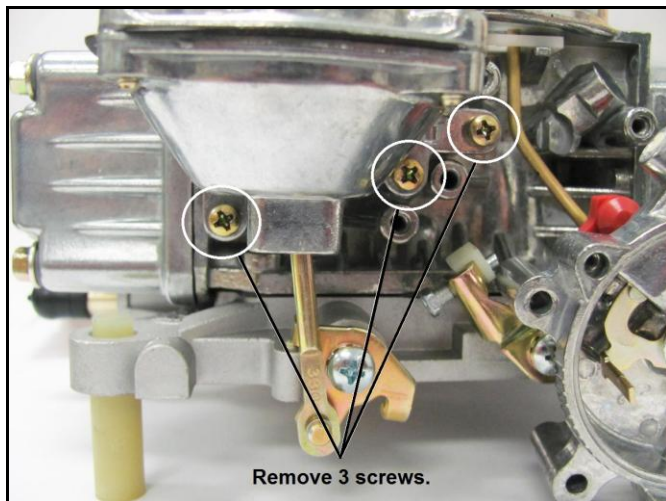

Figure 3
3. **Figure 3** shows the removal of the 3 screws that secure the vacuum housing to the carburetor. After this is done, you may separate the housing from the carburetor.